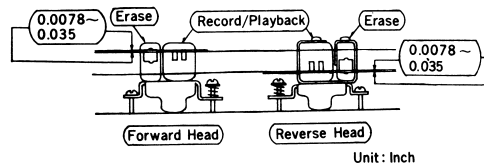

Fig. 18
- Adjust levels of Heads (in relation to Erase Head) as in Fig. 18. For quick check, lift Pressure Pad Assemblies with fingers and note position of Tape in relation to Head.